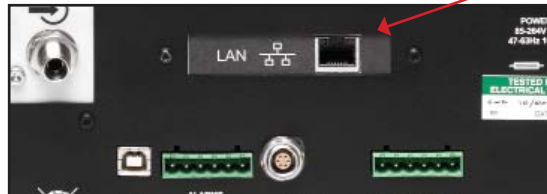

Figure 12 *Ethernet Port (Optional)*
1. Check the orientation of the connector and gently push it into the socket labelled **USB** (see *Figure 12*).